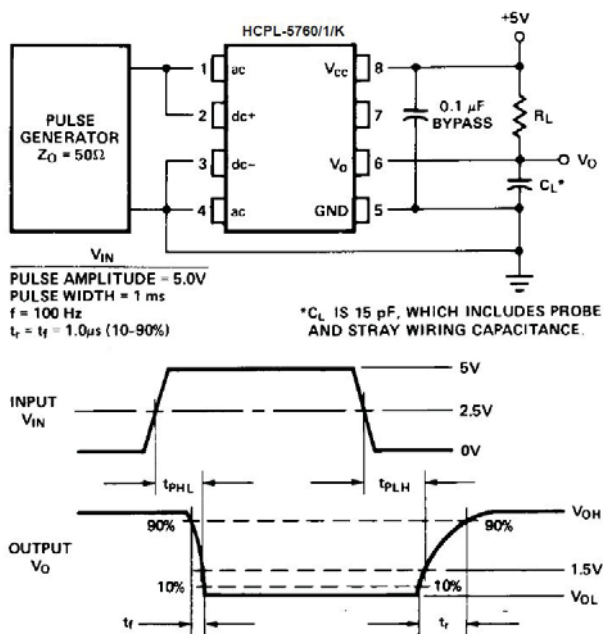

Figure 7. Switching test circuit.
- The  $t_{PHL}$  propagation delay is measured from the 2.5 V level of the leading edge of a 5.0 V input pulse (1  $\mu\text{s}$  rise time) to the 1.5 V level on the leading edge of the output pulse (see Figure 7).
- The  $t_{PLH}$  propagation delay is measured from the 2.5 V level of the trailing edge of a 5.0 V input pulse (1  $\mu\text{s}$  fall time) to the 1.5 V level on the trailing edge of the output pulse (see Figure 7).